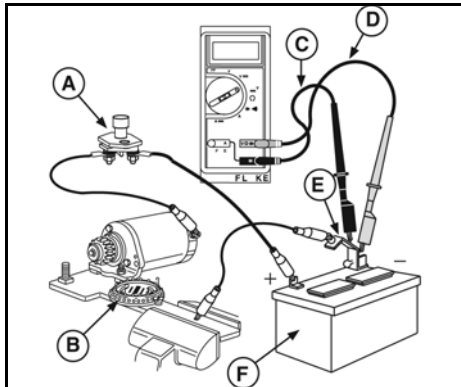

Figure 38
4. Connect the optional starter switch (A, Figure 38), starter motor, battery (F), black lead (C), red lead (D), shunt (E), and tachometer (B).